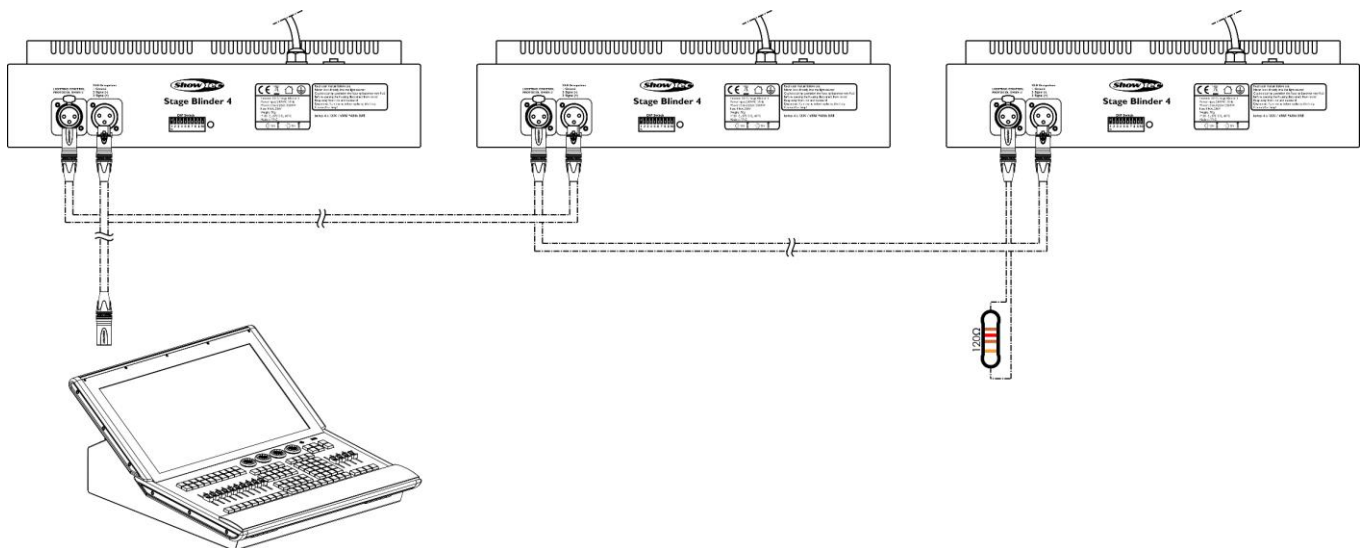

Fig. 07
- 06) Link the devices as shown in Fig. 07. Connect the first device's DMX "out" socket with the second device's "in" socket, using a DMX signal cable. Repeat this process to link the second, third, and fourth devices.